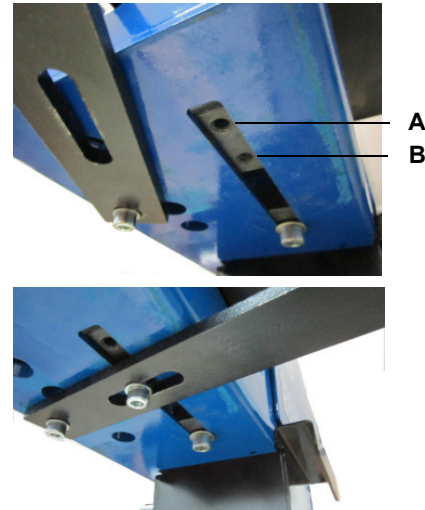

Fig. 11: Feed travel
For the feed travel can be selected from 2 different travel limits. For this purpose, the feed lever must be screwed to either the front (A, Fig. 11) or the rear hole (B) at the bottom of the pipe grinder working position.